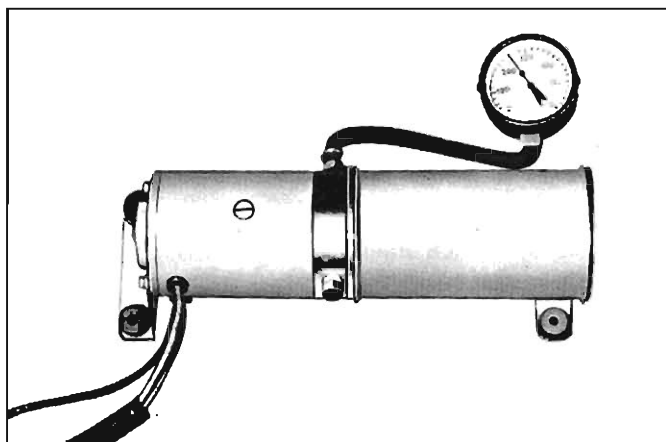

Fig. 74—Checking Pump Pressure
- b. Install plug in one port, and pressure gauge in port to be checked. See Figure 74.